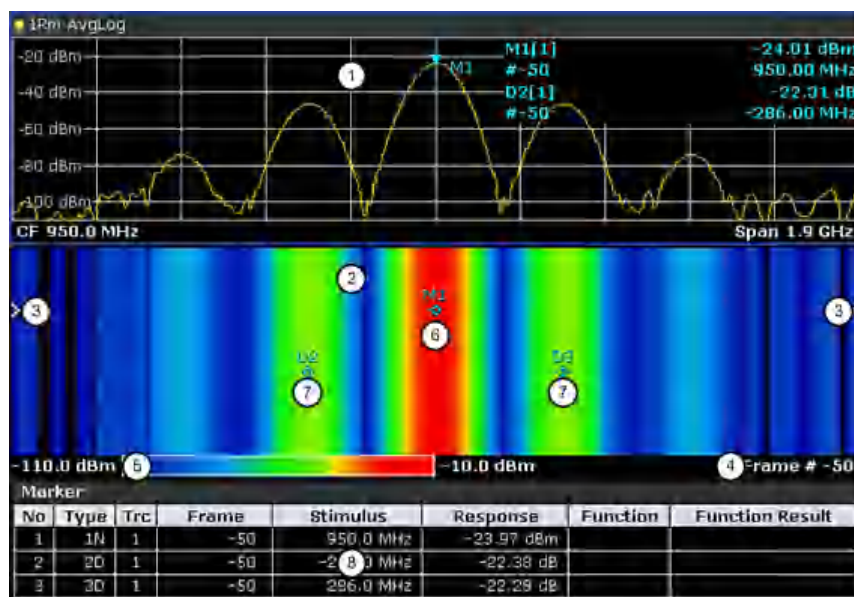

Figure 6-20: Screen layout of the spectrogram result display
- **Spectrum Analyzer result display (1 in Figure 6-20)**